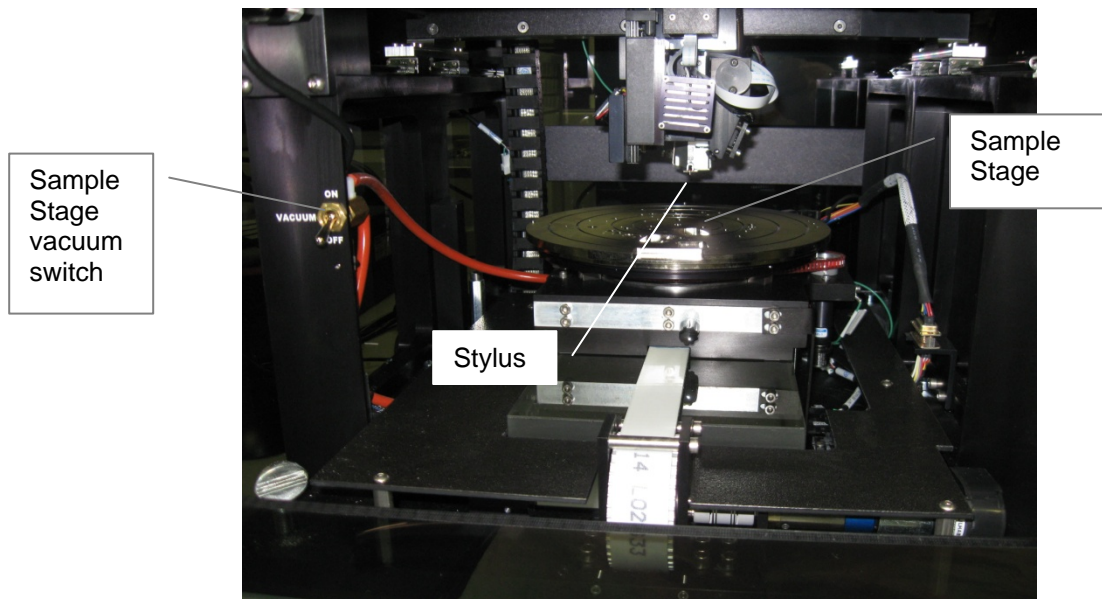

Figure 3: Profilometer view with cover open.
- Place the sample in the center of the stage (Figure 3).